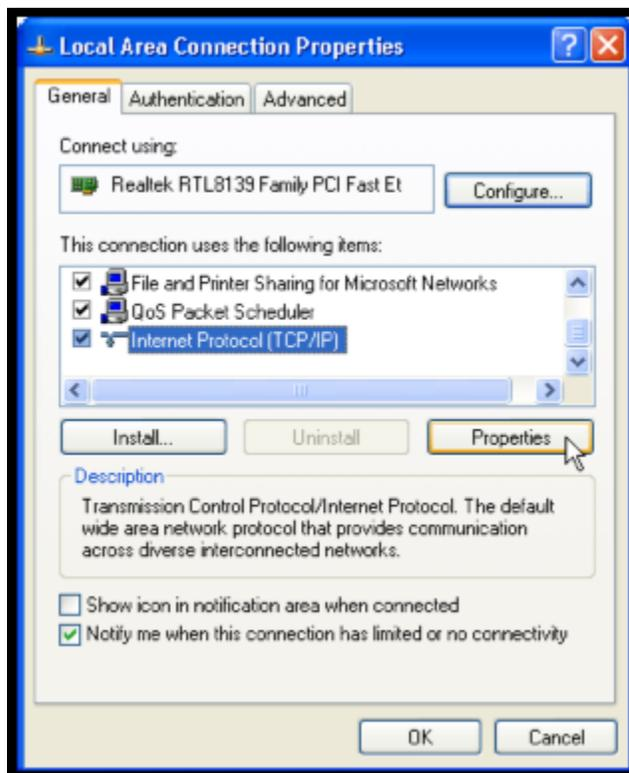

Figure 17. Select the TCP/IP Protocol
- Select the **TCP/IP** entry from the list of network protocols (Figure 17) and select **Properties**.